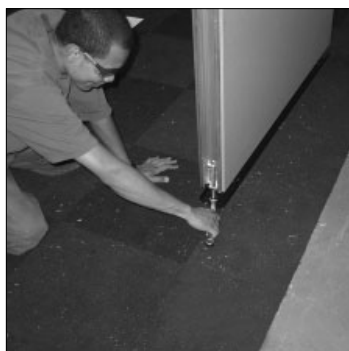

Figure 1
1. Using a $\frac{3}{4}$ " wrench or pliers, readjust the level and height of the panel by turning the bolts of the bottom glides (Figure 1).